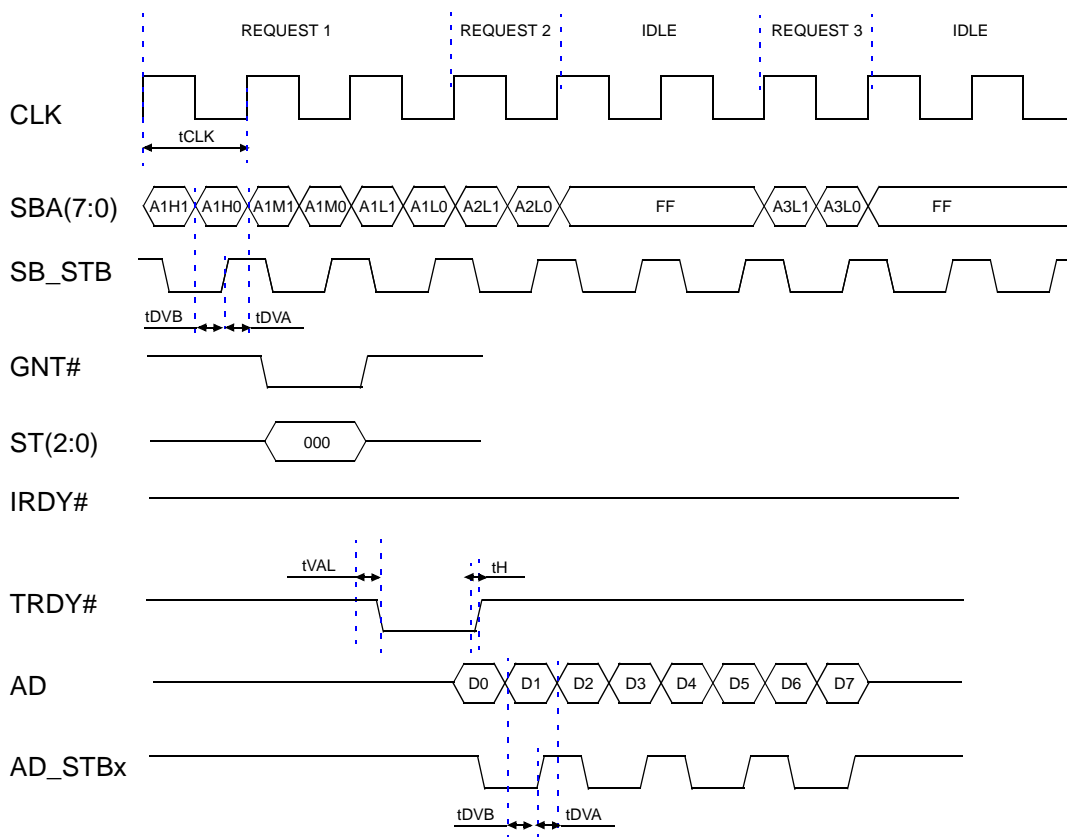
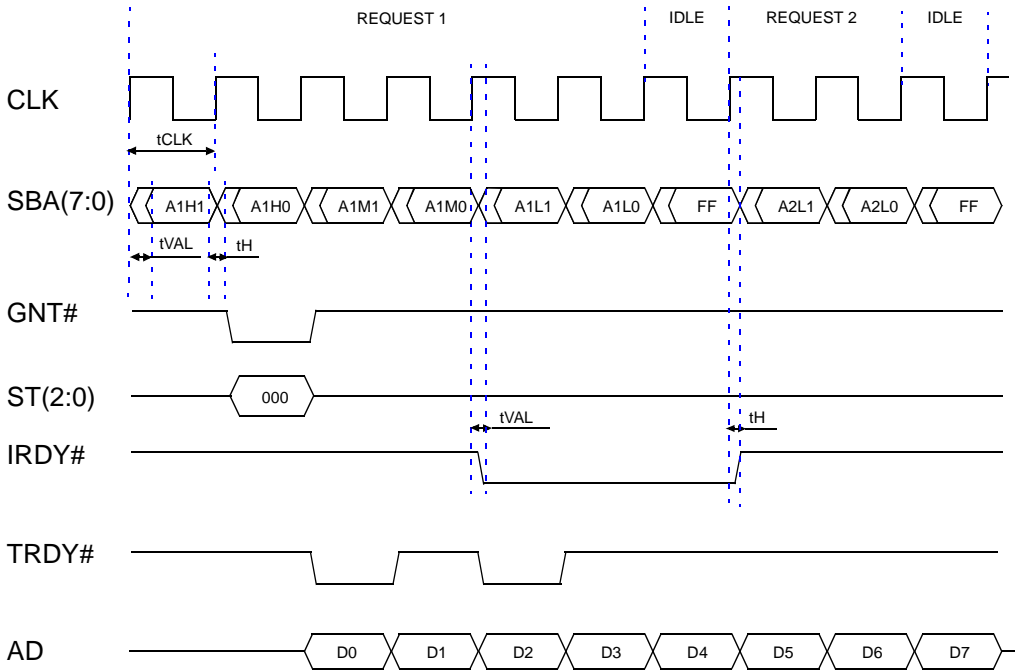

Figure 5-5. AGP 2X Read Request with Return Data (4Qw)
Figure 5-6. AGP 1X Read Request with Return Data (4Qw)
- AGP AC Timing, see *Figure 5-5*. and *Figure 5-6*.